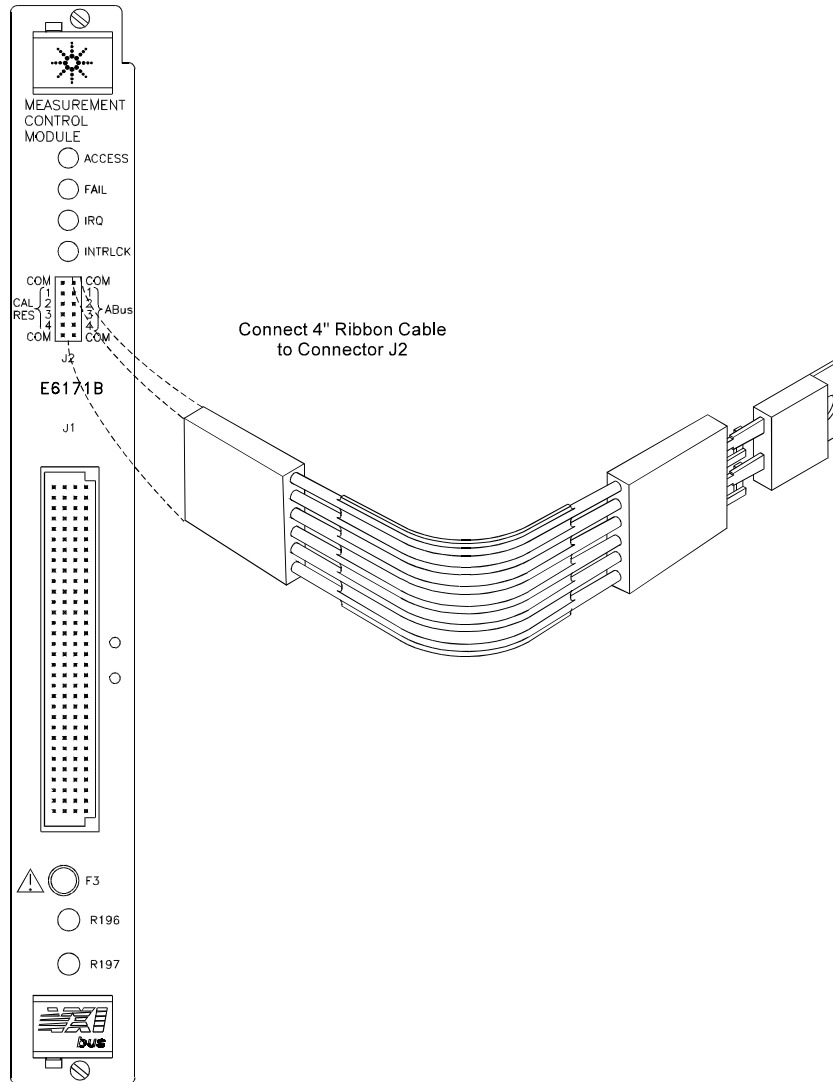

Figure 6-2. Installing the Calibration Fixture on an Agilent E6171A Measurement Control Module
2. When instructed by the 'autoadj.tpa' testplan, remove the ribbon cable from the J2 connector on the front of the Agilent E6171A module. Connect the test fixture ribbon cable to the J2 connector on the Agilent E6171A. Refer to Figure 6-2.